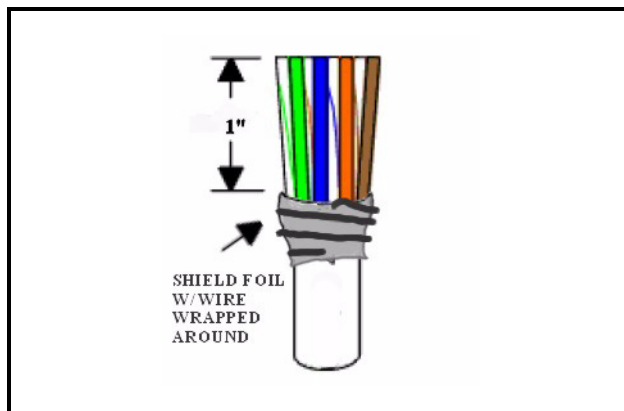

Figure 4-2 - CAT5e Shielded Cable w/ 1" Stripped Jacket
1. Carefully strip the outer sheath insulation back 1". Roll back the foil shield insulation and wrap the drain wire around the foil (**Figure 4-2**). Do not remove any insulation from the conductors.